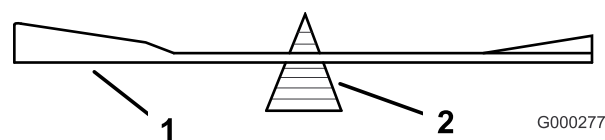

Figure 88
2. Check the balance of the blade by putting it on a blade balancer (Figure 88). If the blade stays in a horizontal position, the blade is balanced and can be used. If the blade is not balanced, file some metal off the end of the sail area only (Figure 89). Repeat this procedure until the blade is balanced.